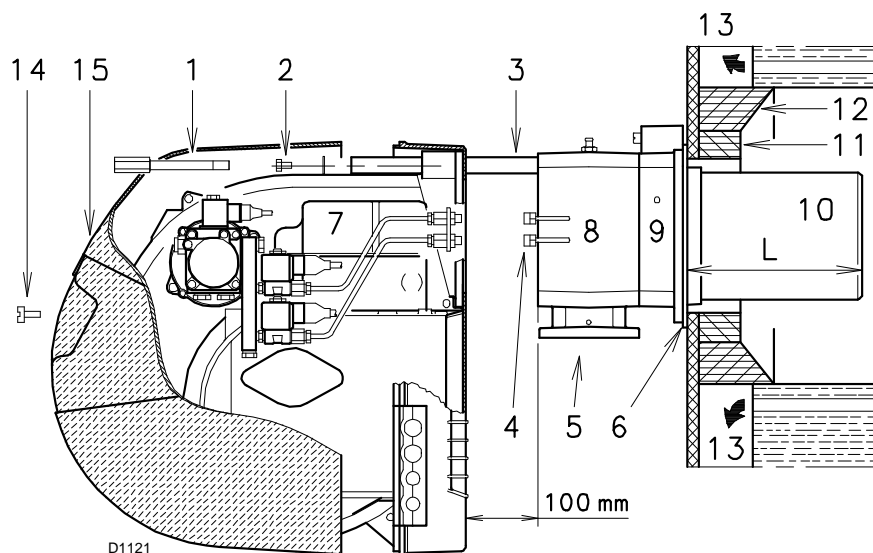

Fig. 9
For boilers with front flue passes 13)(Fig. 9) or flame inversion chambers, protective fettling in refractory material 11) must be inserted between the boiler fettling 12) and the blast tube 10).
For boilers having a water-cooled front the refractory fettling 11)-12)(Fig. 9) is not required unless it is expressly requested by the boiler manufacturer.
- disconnect the oil pipes by unscrewing the two connectors 4)(Fig. 9).
Once this operation has been carried out (if it was required), secure the flange 9)(Fig. 9) to the boiler plate, interposing the thermal insulating screen 6) supplied with the burner.
- Refit the burner 4) (Fig. 15) to the slide bars 3) at approximately 100 mm from the sleeve 5) - burner positioned as shown in Fig. 9 at page 15.
- Connect the oil pipes again by screwing on the two connectors 4) (Fig. 9 at page 15).